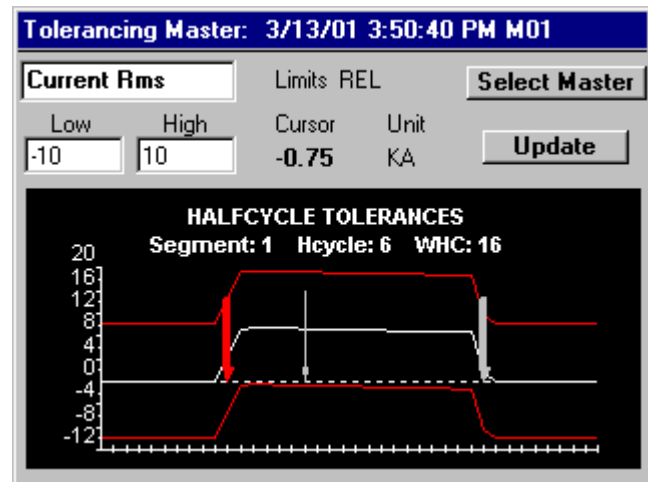

Figure 5-18 Tolerancing screen
1. From the **Main Menu**, select **Tolerancing**. If nothing comes up, click on the **Select Master** button and highlight the master we just made. Click on SELECT. Your screen should look similar to figure 5-18.